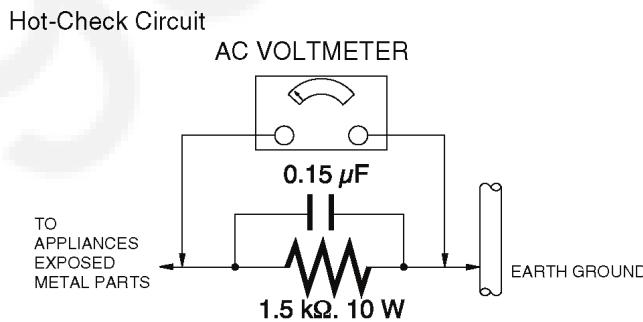

Figure. 1
2. Connect a $1.5\text{ k}\Omega$, 10 W resistor, in parallel with a $0.15\text{ }\mu\text{F}$ capacitor, between each exposed metallic part on the set and a good earth ground, as shown in Figure. 1.